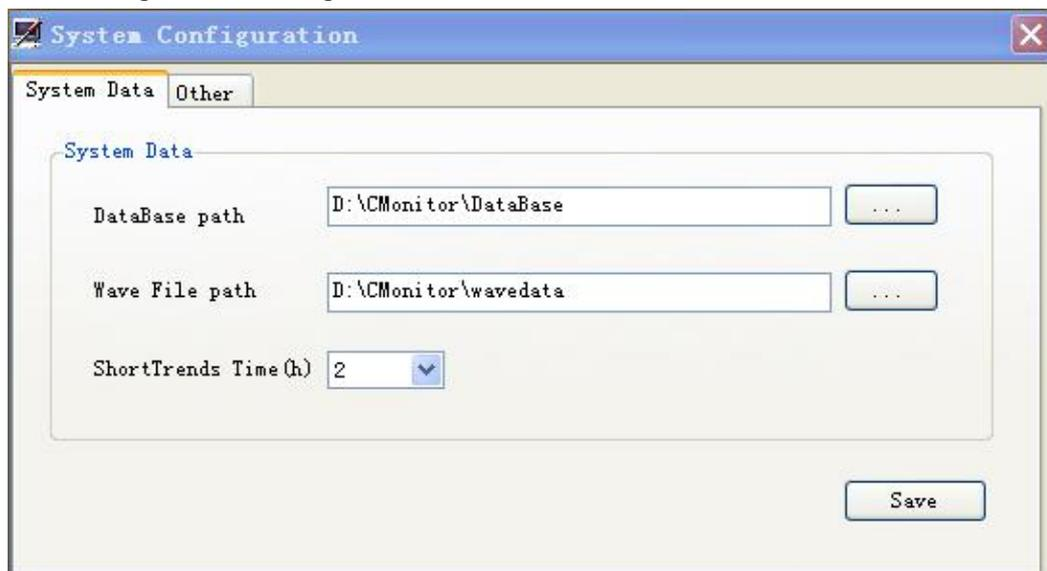
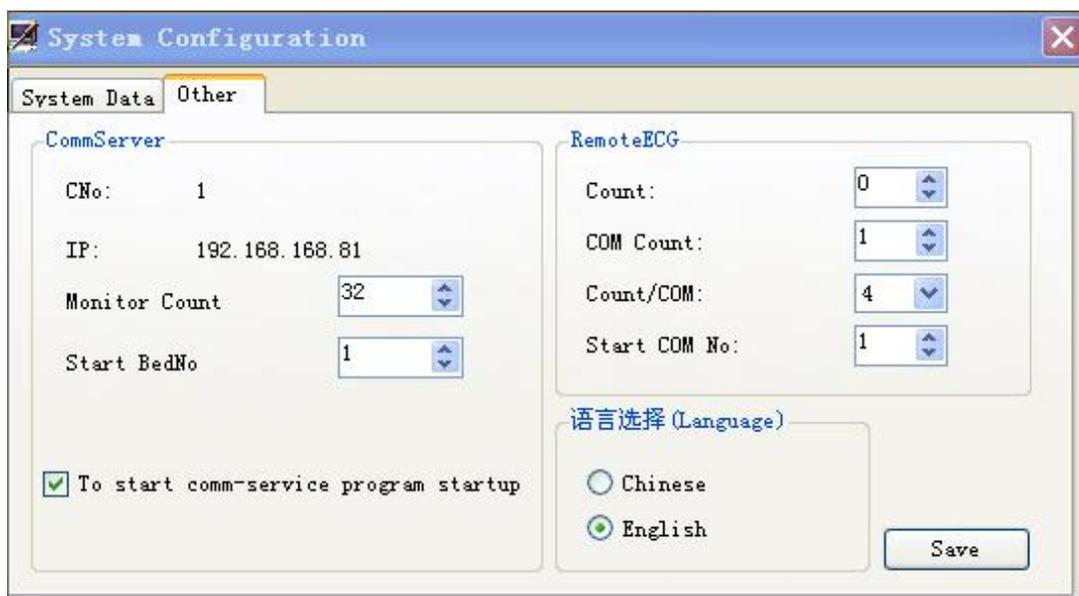

Figure 2.1 System Data setting
Figure 2.2 Other setting
2. On “System Data” setting tab, set the file path for DataBase and Waveform,, the duration time for ShortTrends, then click "Save" to confirm settings, as shown in figure 2.1. On "Other" setting tab, set the bed number, language and telemetry device information (eg. Number of devices, start No. of COM port, and numbers of used COM ports) then click "Save" to confirm settings, as shown in figure 2.2.
3. Please double confirm the setting before you exit from the System Configuration screen. Please note that the IP address should be assigned already, and other items are set as shown in figure 2.2.